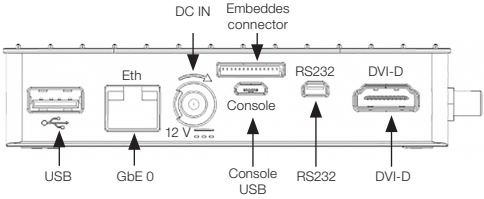

Figure 1.3: WCD-ED300 back connectors
1. Connect an Ethernet cable between the PC and Ethernet port "GbE 0" located beside the power supply connector (Figure 1.3).